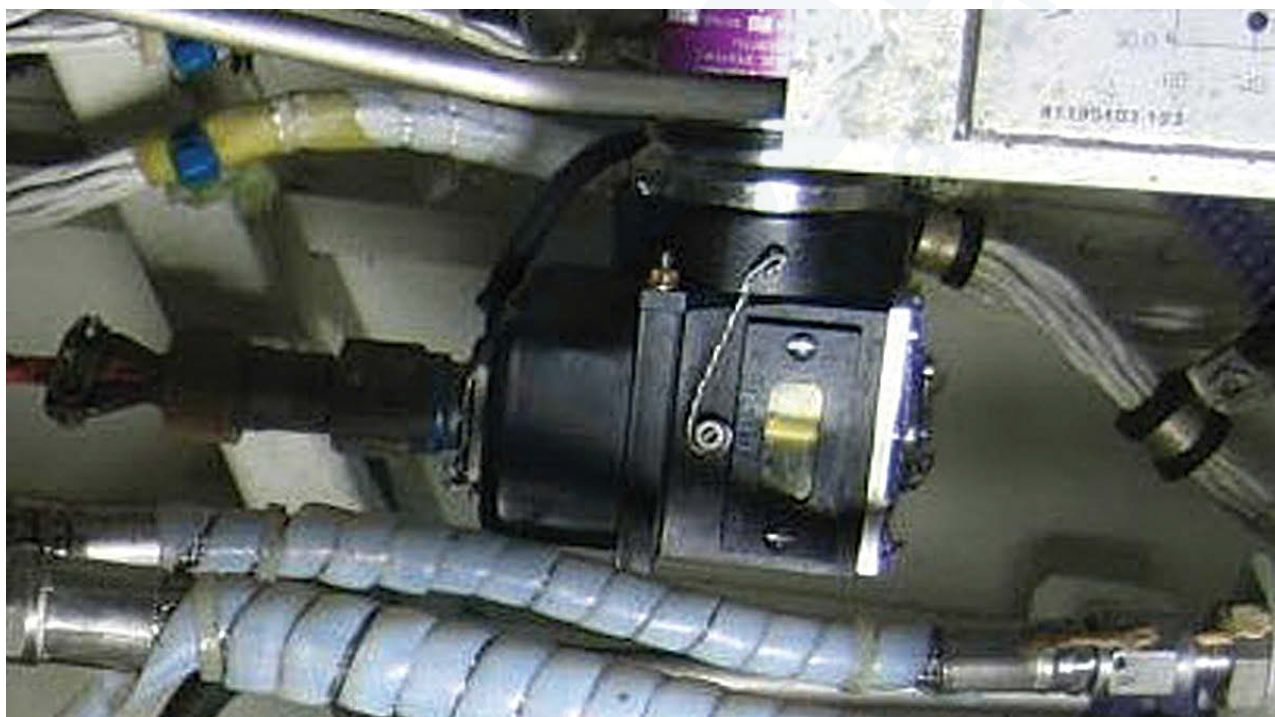

Figure 29-53. Quantity Indicator in No.3 Hydraulic System
- Figure 29-53. Quantity Indicator in No.3 Hydraulic System.
Refer to Figure 29-53. Quantity Indicator in No.3 Hydraulic System.